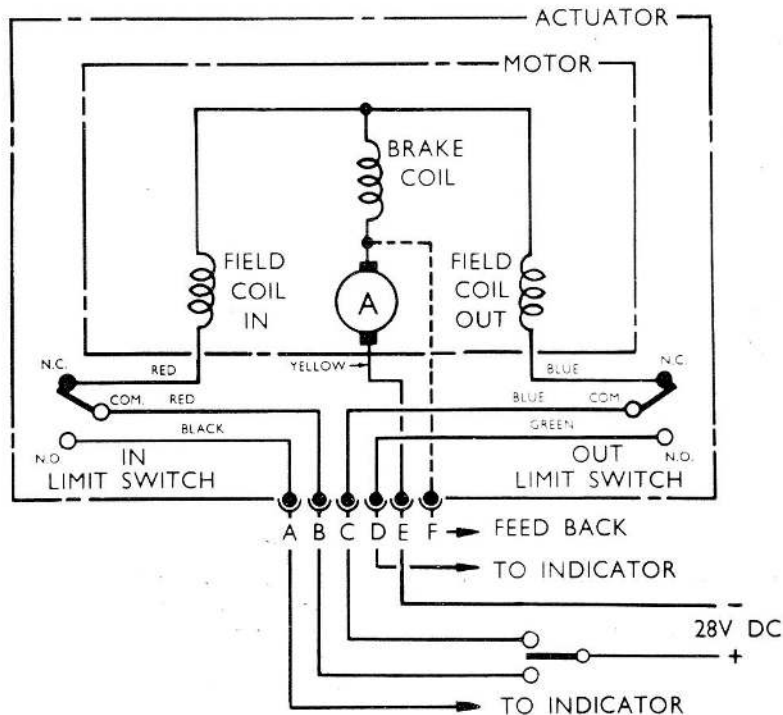

Fig. 4. *Typical circuit diagram*
15. The internal connections and a typical external circuit are shown in Fig. 4.